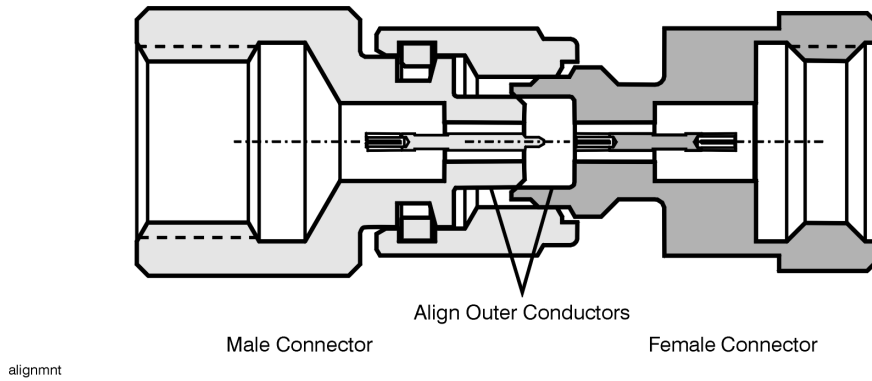
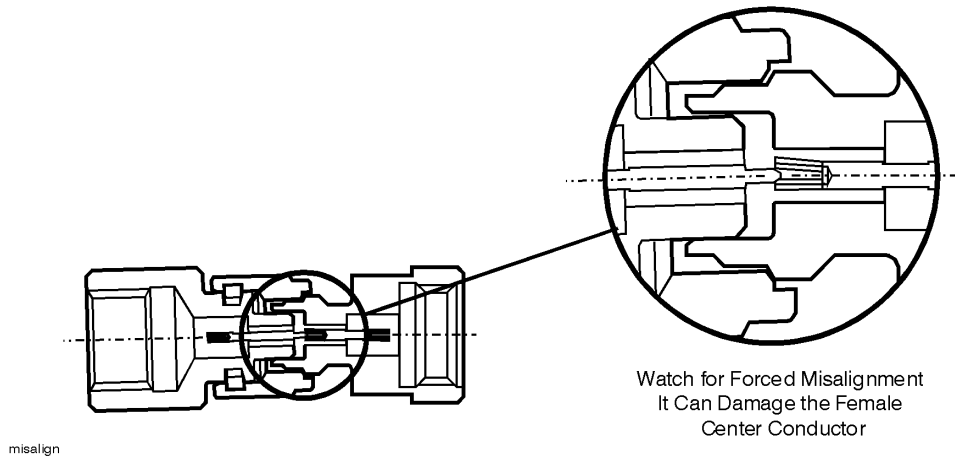

Figure 3-5 Alignment
Figure 3-6 Forced Misalignment
If one of the 1.0 mm connectors is free to move, this will make it possible for the connectors to self-align during connection. Self-alignment occurs because outer conductors engage before the center conductors (see Figure 3-5 and Figure 3-6).
To achieve misalignment as shown in Figure 3-6 you must use *excessive* force.
4. Carefully align the connectors. The male connector center pin must slip concentrically into the contact fingers of the female connector (see Figure 3-5 and Figure 3-6).